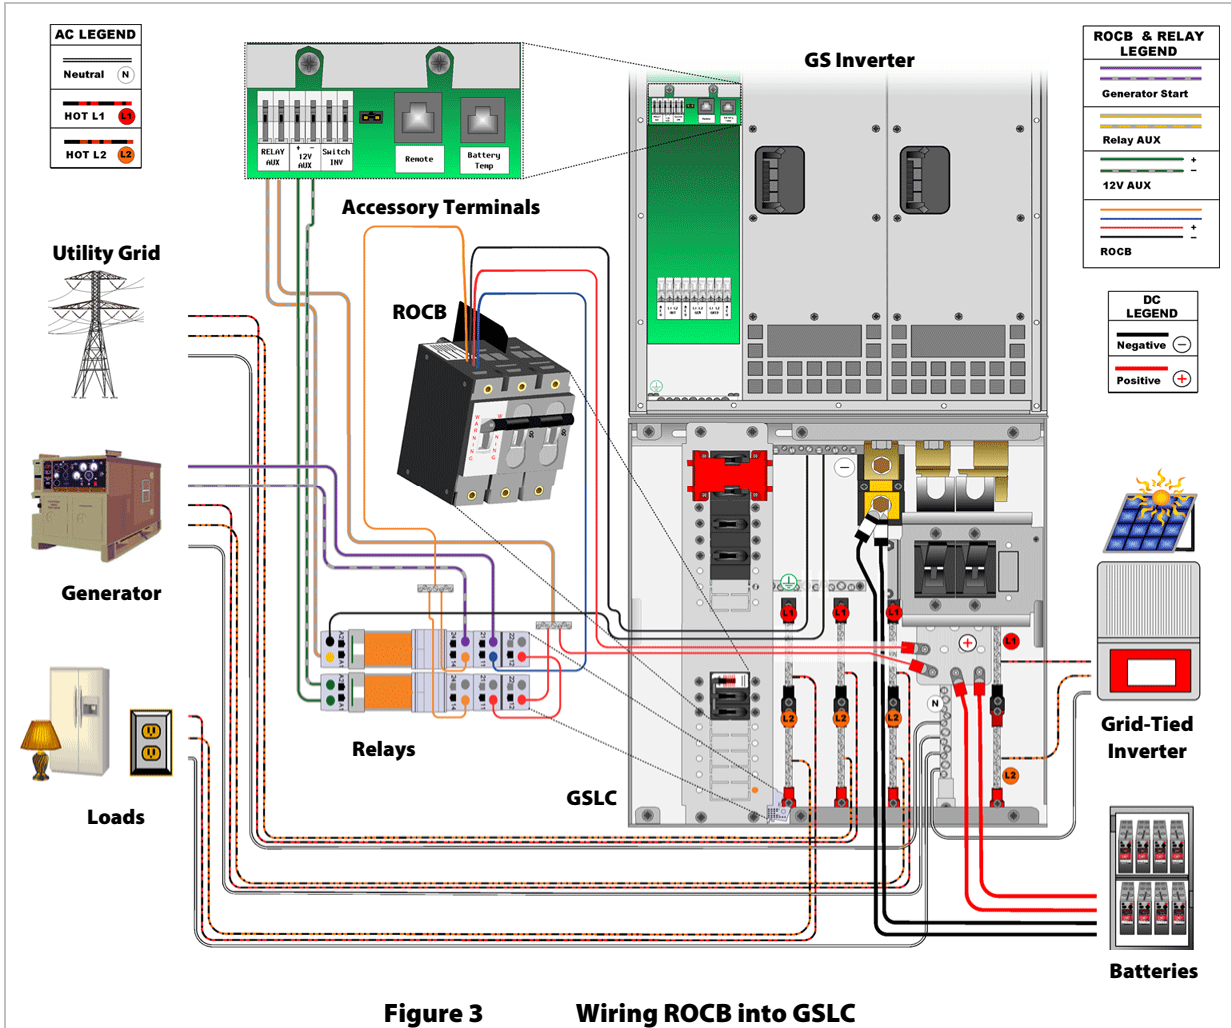

Figure 3 Wiring ROCB into GSLC
Figure 3 shows how the ROCB kit connects to an AC-coupled GSLC (GS Load Center).
- In Figure 3, AC circuit panels, all ground wires, and wiring between inverter and GSLC have been omitted for simplicity. (See inverter and GSLC manuals for more information.)
- To install wires in the 12-volt and 48-volt relays: Insert the wire into the appropriate opening as shown in Figure 3. Insert a narrow screwdriver or similar tool into the corresponding hole next to it. Press straight down to unlock the latching mechanism.
2. Select the ROCB mounting location. See Figure 3 for the recommended GSLC location. Using the DIN rail as a template, mark all DIN rail mounting screw locations. Drill all holes for mounting screws.
4. Mount the ROCB using three knockout positions on the GSLC circuit breaker rail. See Figure 3 for these positions.